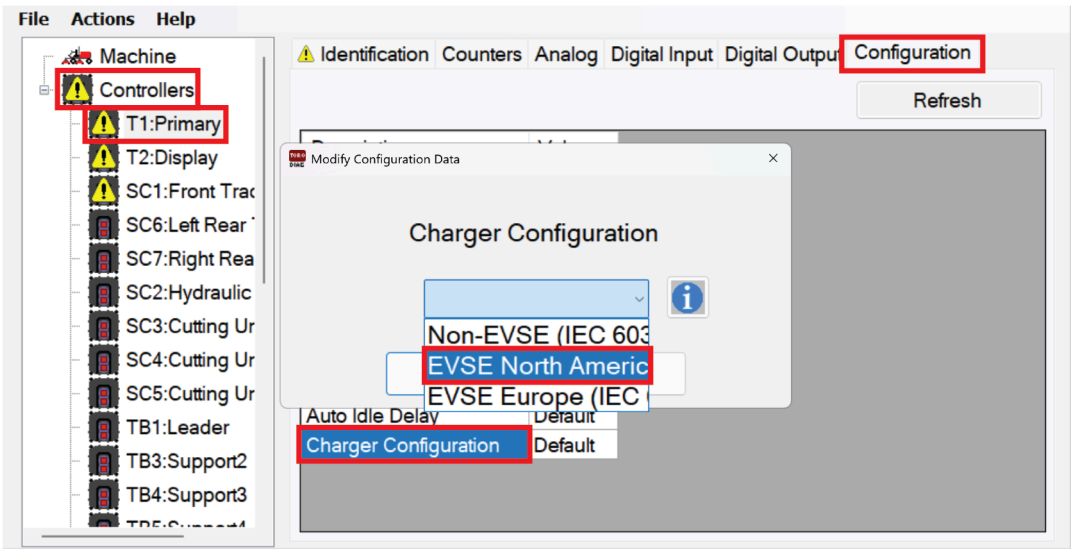

Figure 5
5. The **Charger Configuration** window appears. Select the **EVSE North America (J1772)** option (Figure 5).